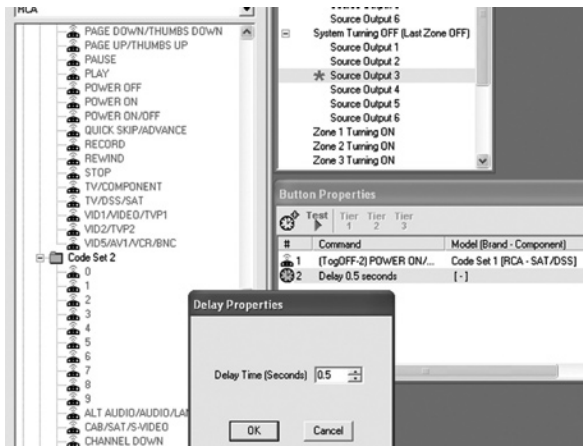

Figure 12 Programming Delays
2. To prevent this, place a delay just after the Power command for the related Source **Output** under **System Turning OFF in Events Setup** (and under the Source button, if needed at turn ON). To do so, **left-click the clock symbol** just above the **Command List**. A Delay line with a clock symbol will appear in the Command List. Refer to **Figure 12**.